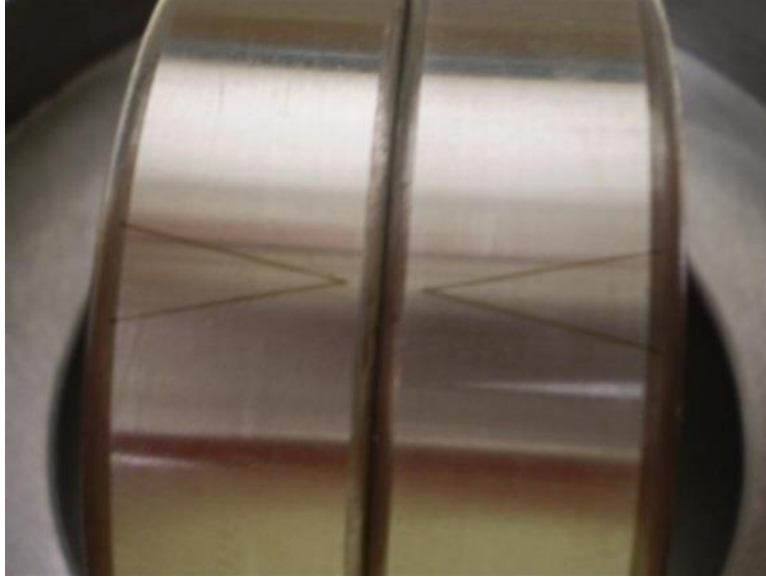

Figure 6.11.2a
- c. The arrows must be pointed toward each other ( $\triangleright\triangleleft$ ) and the "o's" should be aligned with each other, see figure 6.11.2a. However, it is not a concern if there is no "o" found on the inner race, this simply means that no measurable high-spot was found by the bearing manufacturer.